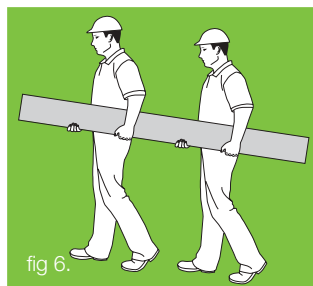

fig 6.
- If two people are carrying the plank, hold it near each end and on edge (figure 6).